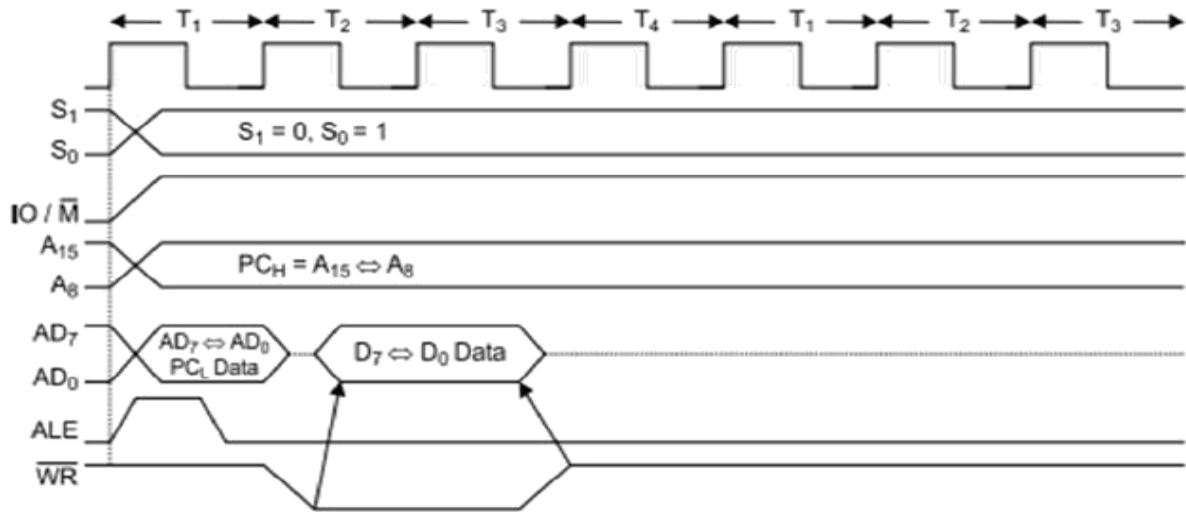

Fig 14. IO Write timing diagram
- During T1, the lower byte of address is duplicated into higher order address bus A8-A15 as in fig 14.